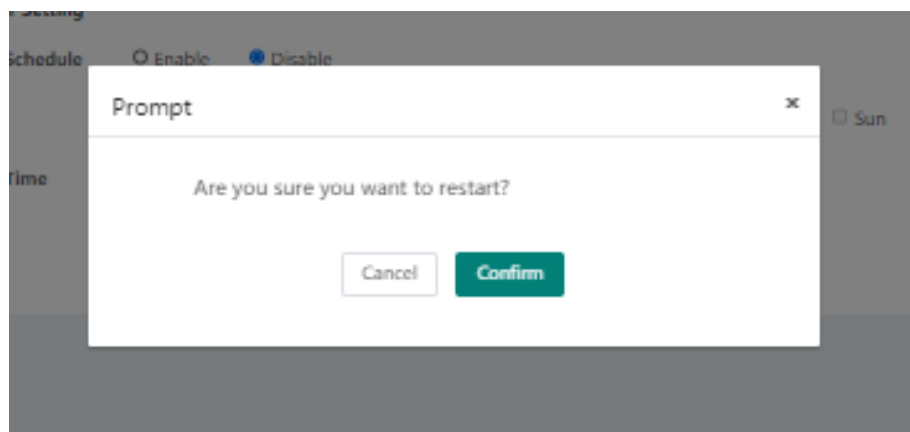

Figure 5-6 System restart confirmation
- System restart: Click the "Restart" button, a confirmation prompt window will pop up, as Figure 5-6